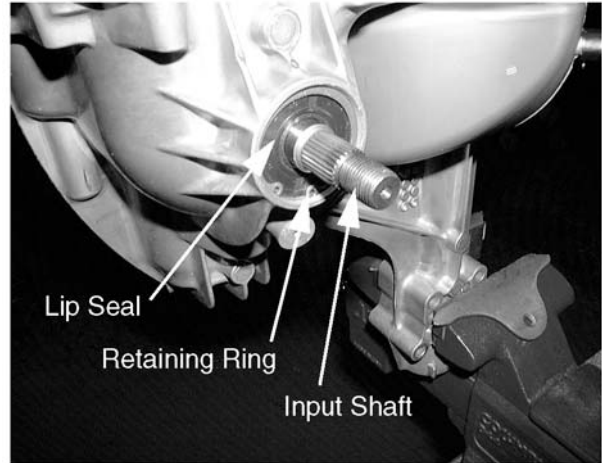

**Figure 6-61.**
23. Inspect the outer seal for damage or wear. See Figure 6-61.